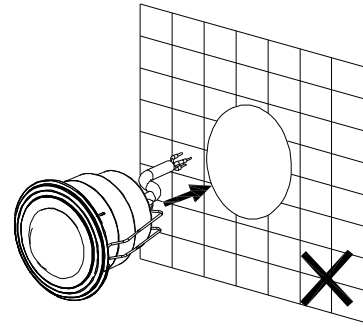

FIGURE 1
- I The unit should not be installed on the wall. (FIGURE 1)